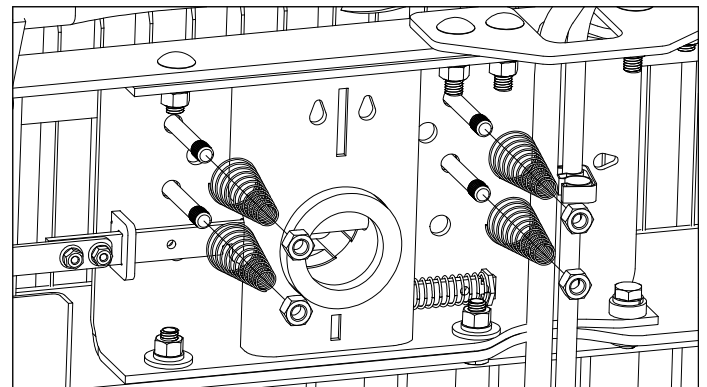

Figure F1: View looking up under bed.
2. **Add springs.** Place a conical spring over each leg of the U-bolts and secure with a 1/2" lock nut, see Figure F1. Tighten the lock nut until the nut is flush with the end of the U-bolt.